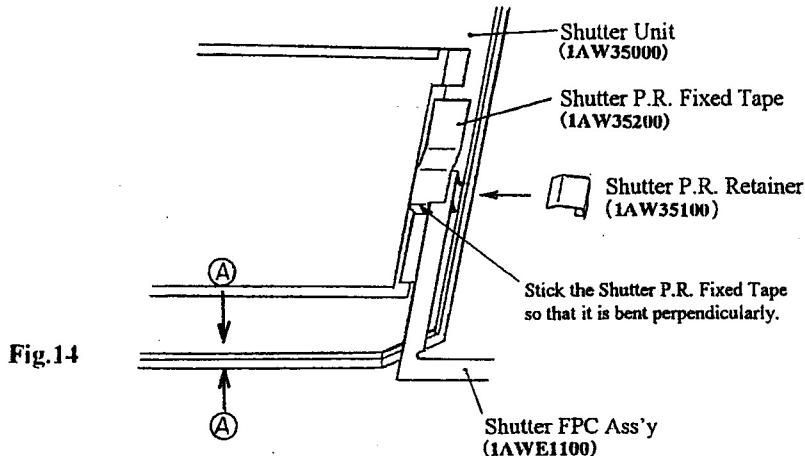

Fig.14
- Do not hold the lower part **(A)** of the Shutter Unit with your fingers. (See Fig. 14)
- As shown in Fig. 14, stick the Shutter P.R. Fixed Tape (1AW35200) on the Shutter FPC Ass'y (1AWE1100). In doing so, stick the Shutter P.R. Fixed Tape in such a way that its lower stepped portion is bent perpendicularly.